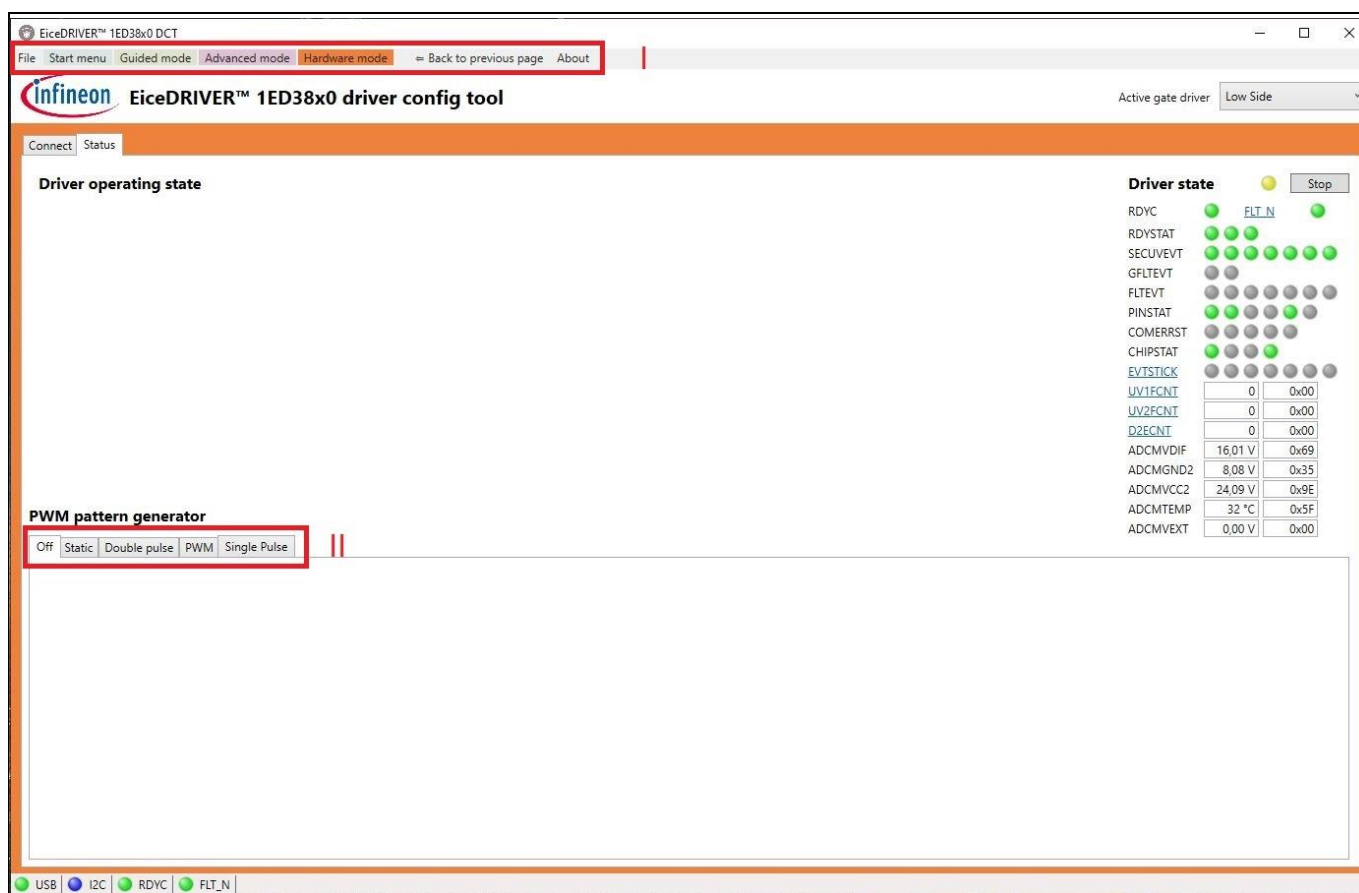

Figure 8 Landing page if GUI is connected with the DCT-board and the EVAL-FFXMR20KM1HDR
8. If the GUI is connected correctly with the EiceDRIVER™ Eval-1ED38x0DCT microcontroller board and the EVAL-FFXMR20KM1HDR, the landing page will change as shown in Figure 8.
Figure 8 shows the landing page that is available once the communication between the computer, the EiceDRIVER™ Eval-1ED38x0DCT and the EVAL-FFXMR20KM1HDR is working. Please click on the quick start button for that.
The landing page as shown in Figure 8 can be separated into two sections. The top bar that is used to set up the registers of the gate driver via the I²C bus.